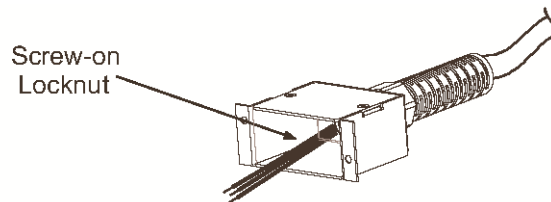

Fig.3-2: Stripped Wires installed in Strain Relief
- Slide the helix-shaped body onto the AC cable. Insert the stripped wires through the strain relief base until the outer cable jacket is flush with the edge of the base. Tighten 16-18 Lb-inch (18 - 20Nm) the body to the base while holding the cable in place. Now the cable is securely fastened inside the strain relief. Refer to Fig. 3-2.